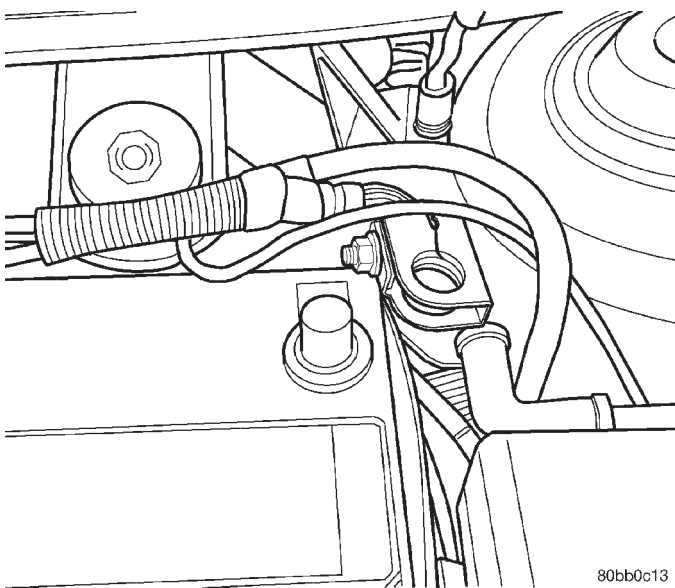
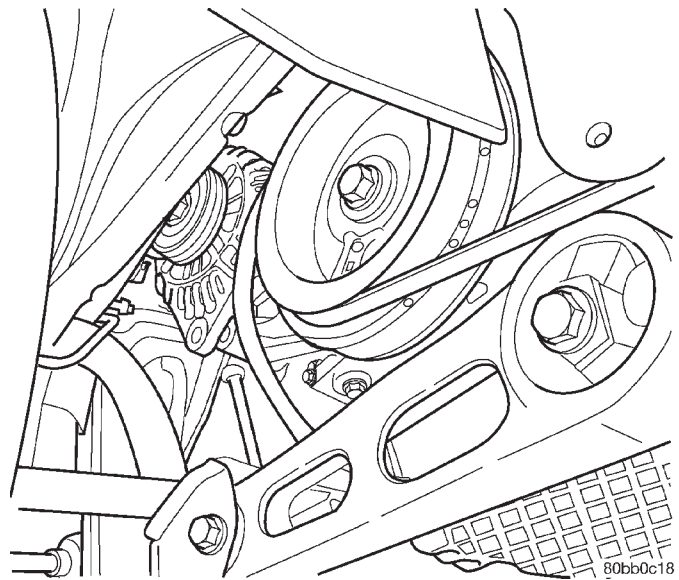

Fig. 1 Battery Cable
Fig. 2 Splash Shield and Belt
- (1) Disconnect battery negative cable (Fig. 1).
- (2) Loosen the jam nut and adjustment bolt.
- (3) Raise vehicle and support.
- (4) Remove accessory drive splash shield (Fig. 2).
- (4) Connect the generator field circuit wiring connector. Push the **RED** locking tab to lock.
- (5) Install the B+ terminal nut and wire.
- (6) Install the generator drive belt.
- (7) Lower vehicle.
- (8) Tension belt.
- (9) Tighten adjustment bolt.
- (10) Tighten the jam nut
- (11) Raise vehicle and support.
- (12) Tighten lower mounting bolt and tighten bolts to 54 N·m (40 ft. lbs.).
- (13) Install splash shield (Fig. 2).
- (14) Lower vehicle.
- (15) Connect battery cable (Fig. 1).